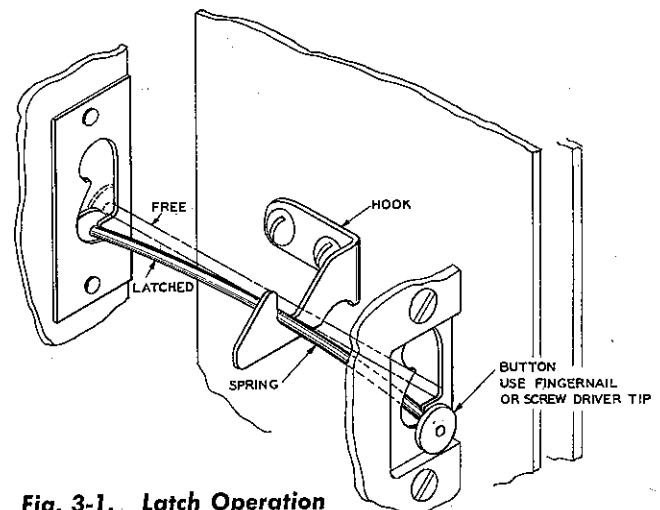

Fig. 3-1. Latch Operation
d. To reassemble, disconnect at voltmeter, J-103. Coil the short cable W-101 within the meter box and around the meter, as in Fig. 1-2. With meter box in about the relative position of Fig. 1-2, tuck excess cable in by working the loops out into corners of meter box. See that both crystal diode V-101 and Cap-H-101 are plugged in. Reconnect to J-103 as shown in Fig. 1-2. Rotate the meter box to position, engaging 4 pins on corners of radiator and noting that cable W-101 is not kinked or pinched. Engage the latch spring per Fig. 3-1, first one button, then the other. The second will be found to resist with stiff spring action. Check by pulling on the meter box.